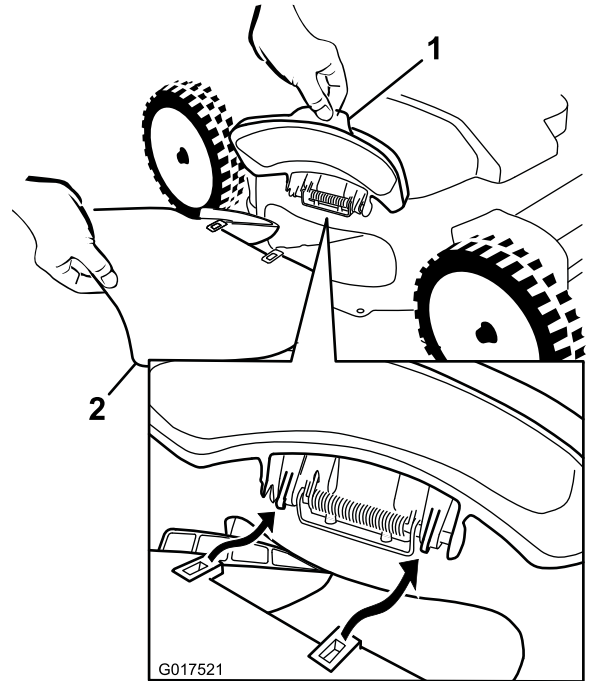
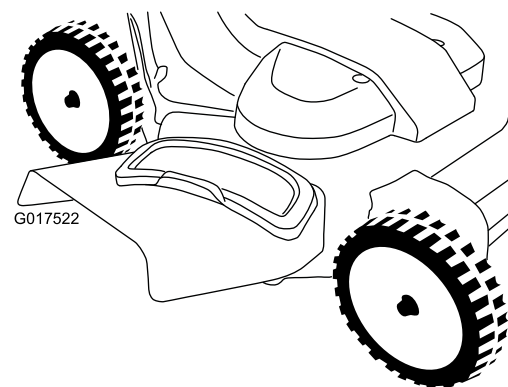

Figure 27
Figure 28
1. Lift open the side-discharge door (Figure 27).
2. Install the side-discharge chute as shown in Figure 27 and Figure 28, and close the door onto the chute.